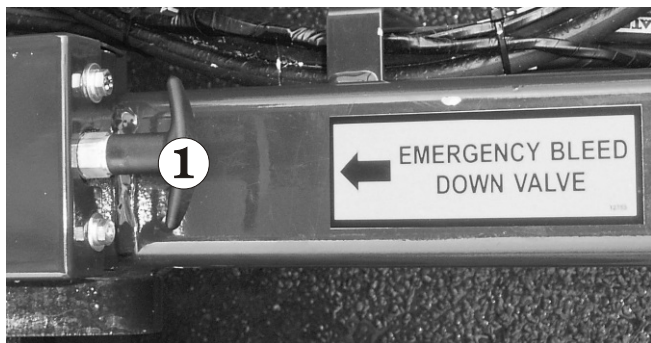

Figure 7.29 - Emergency Lowering
Operate the emergency lower by pulling on the cable ❶ (see Figure 7.29) located at the front of the chassis. When the platform is fully lowered release the cable.